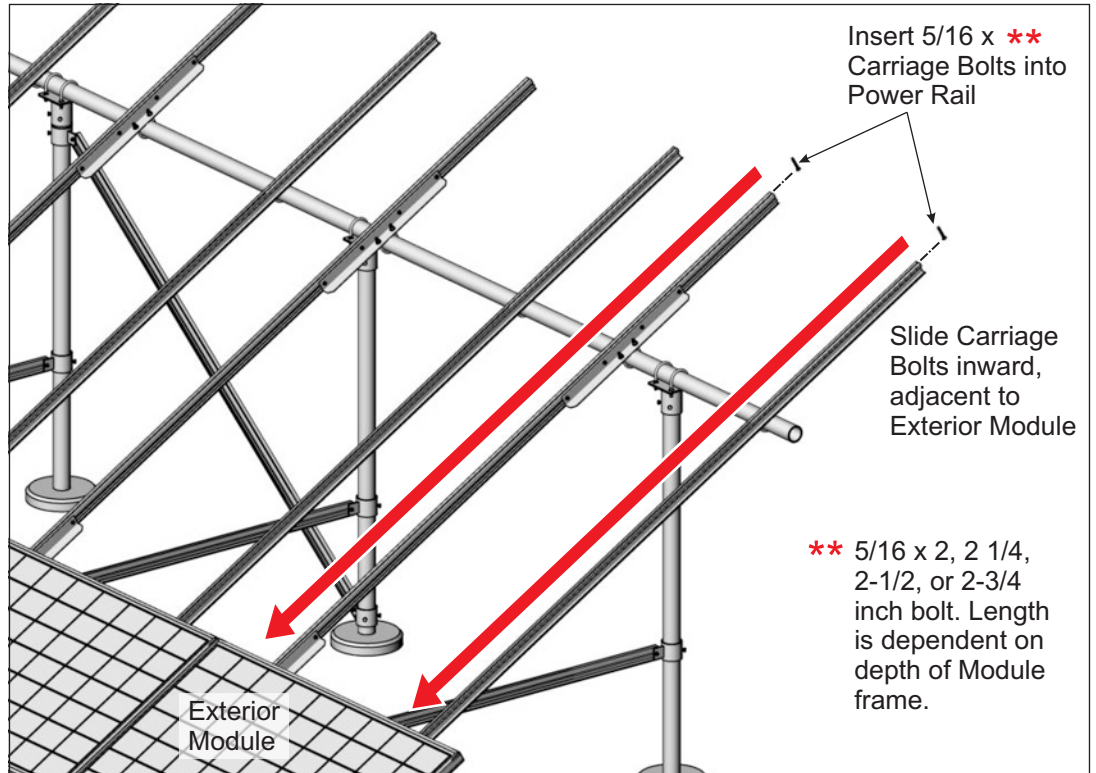

Figure 7-5: Inserting Mid Clamp Hardware into Power Rail
- A. Before placing an interior Module onto the Power Rails, first insert 5/16" x 2, 2 1/4, 2 1/2, or 2-3/4" carriage bolts (bolt length is dependent on depth of PV Module frame) into the Module Rail, sliding the bolts inward adjacent to the previously installed exterior Module. (See Figure 7-5)